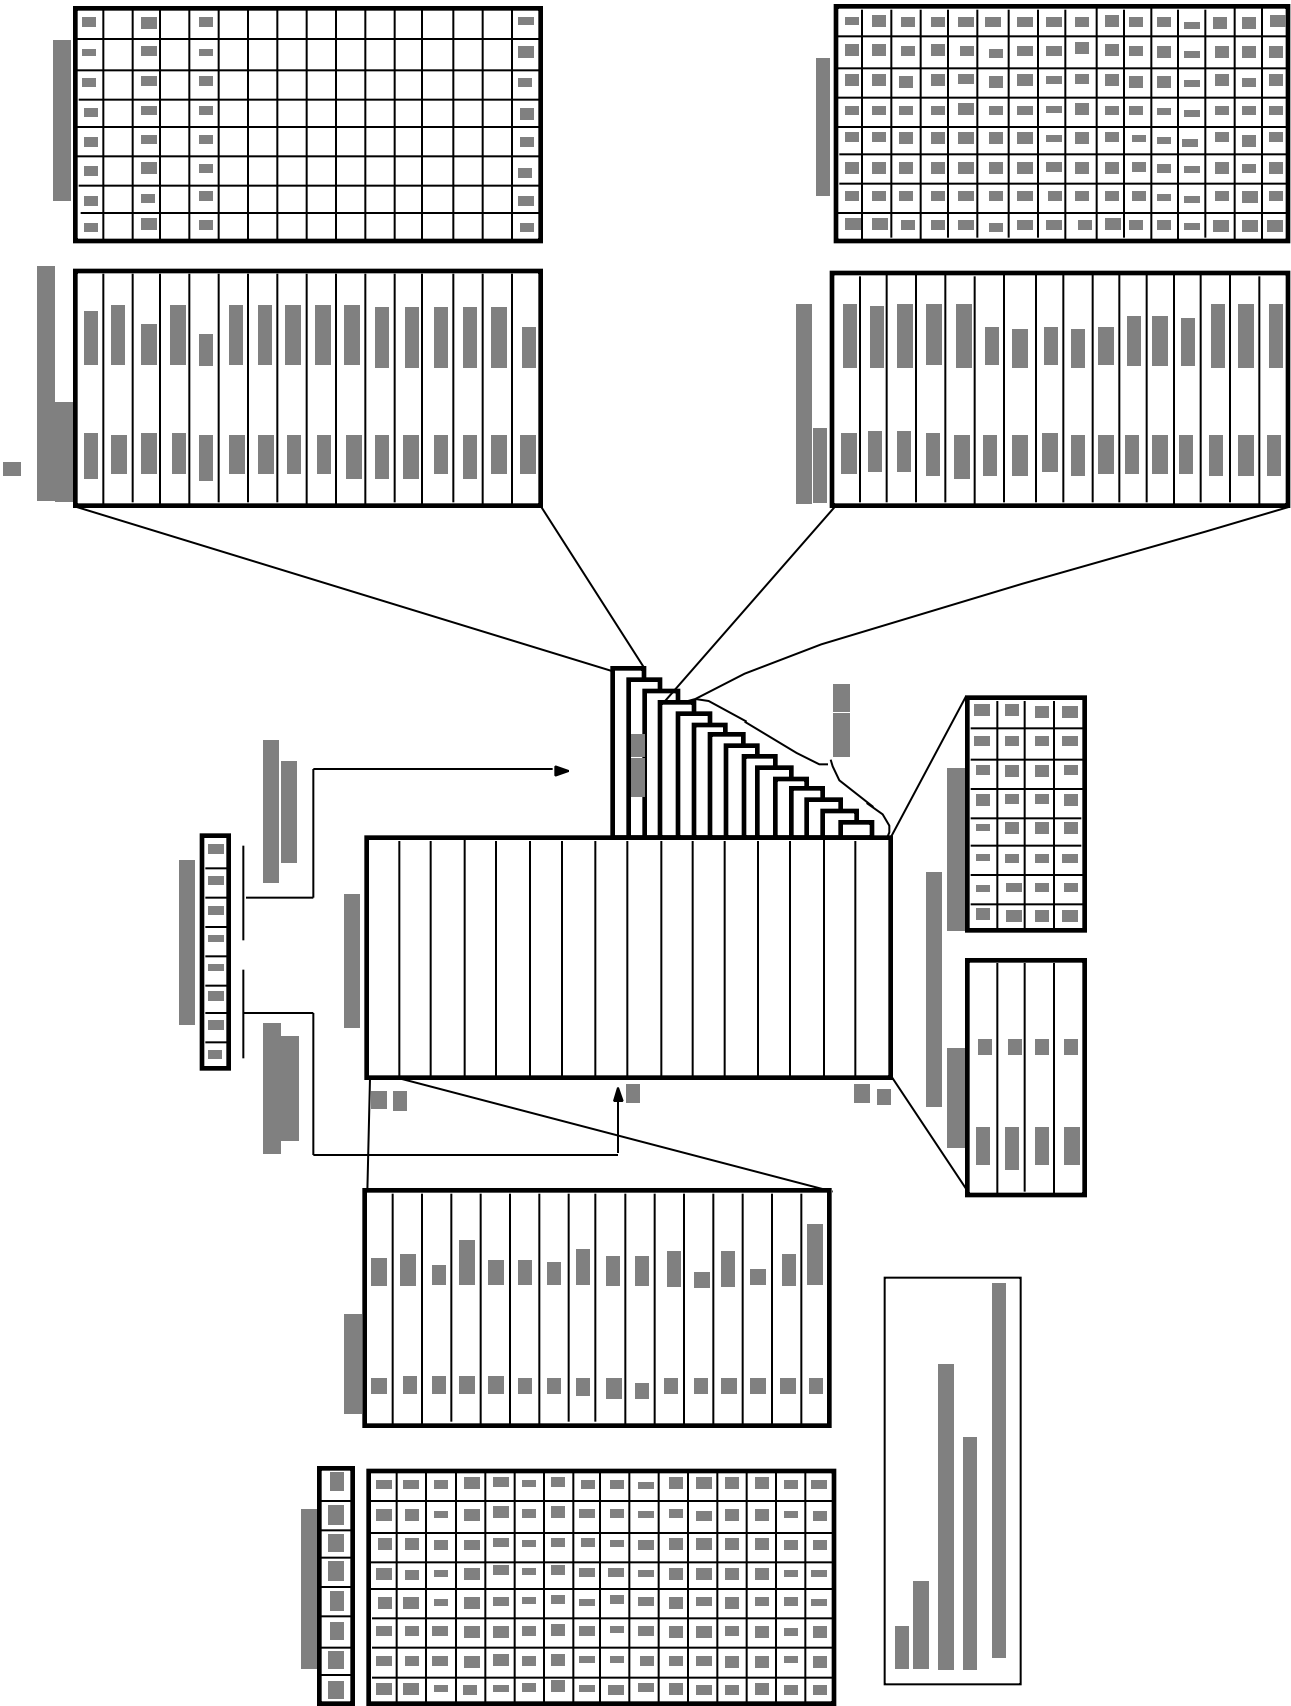

Figure 16. Expanded Register File Architecture
Expanded Register File. The register file has been expanded to allow for additional system control registers and for mapping of additional peripheral devices and input/output ports into the register address area. The Z8 register address space R0 through R15 is implemented as 16 groups of 16 registers per group (Figure 16). These register banks are known as the Expanded Register File (ERF). Bits 3-0 of the Register Pointer (RP) select the active ERF bank. Bits 7-4 of register RP select the working register group (Figure 16). Four system configuration registers reside in the ERF address space in Bank F and eight registers reside in Bank C. The rest of the ERF addressing space is not physically implemented, and is open for future expansion.